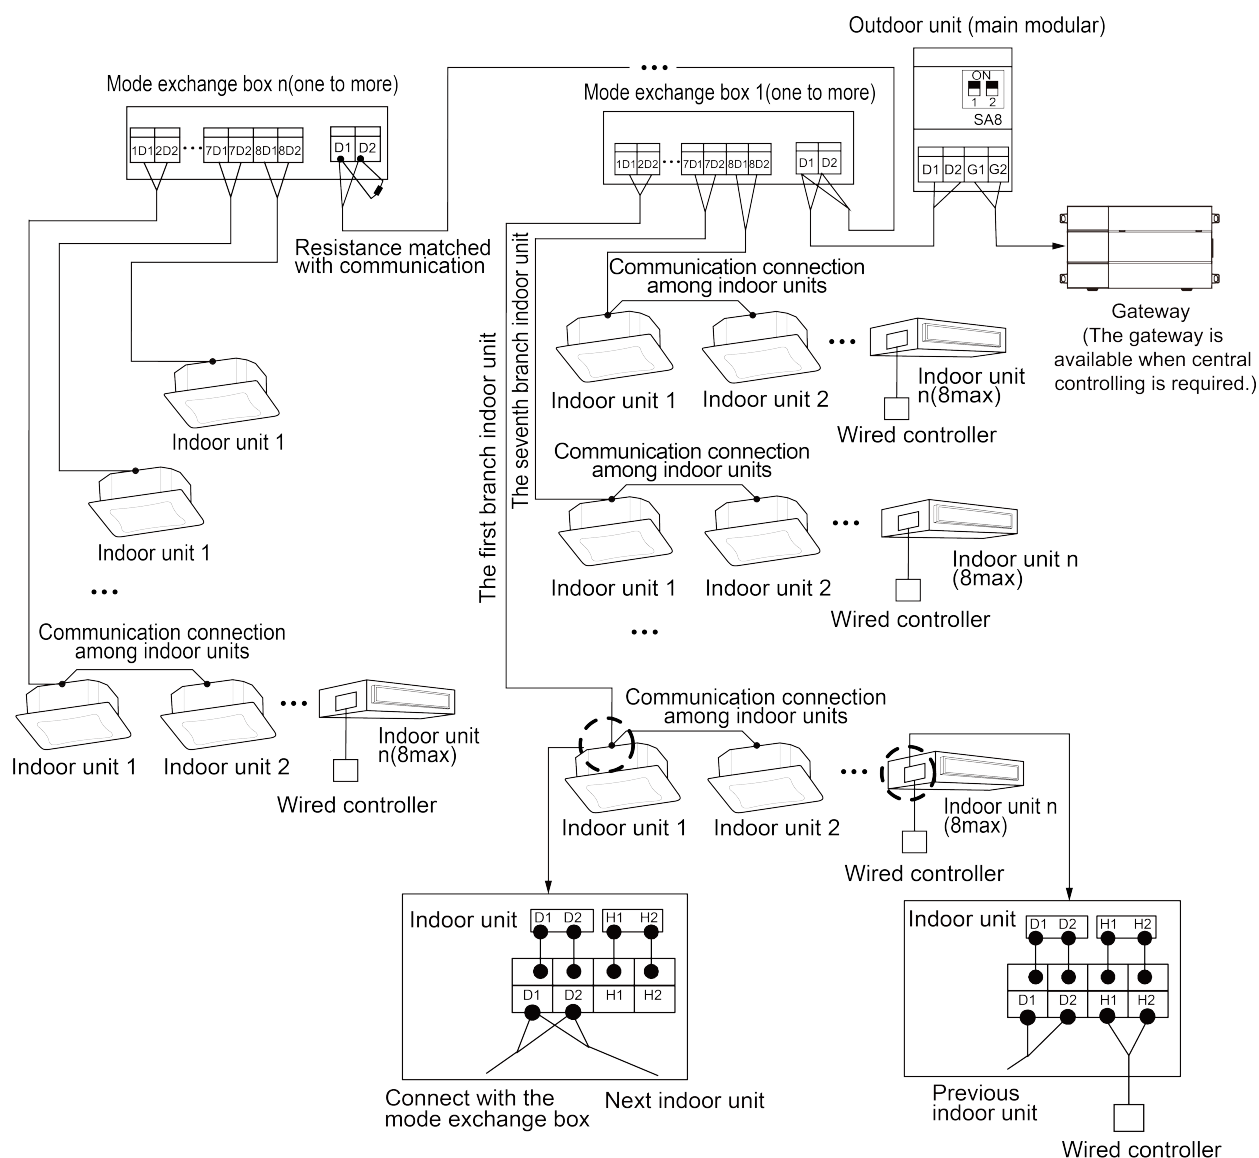

Fig.5.3.3
- (1) Open electric box cover of indoor unit.
- (2) Pass the communication wire through rubber ring.
- (3) Connect communication wire to wiring board OD (D1, D2) of outdoor unit of Mode Exchange Box.
- (4) Connect communication wire lead from D1 and D2 terminal of 4-bit wiring board of indoor unit to wiring board ID1 (1D1, 1D2) of indoor unit of Mode Exchange Box; ID2 (2D1, 2D2).....ID-n (nD1, nD2), $n \leq 8$; As shown in Fig.5.3.3.